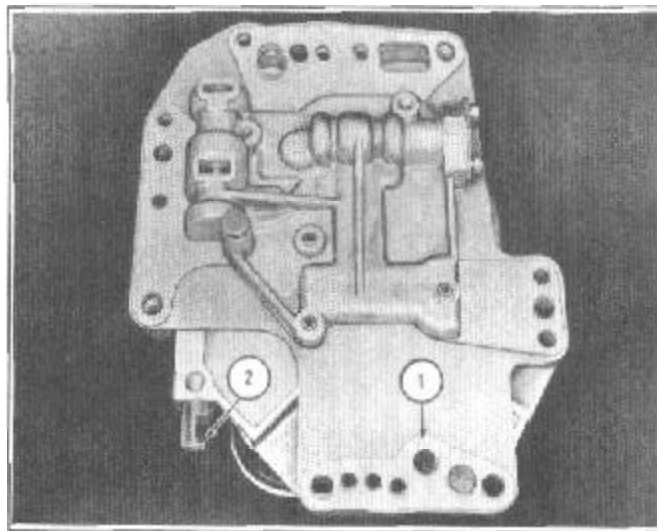

FIGURE 61
3. Remove the valve block base plate rear gasket (1), Figure 61.
1. Install a new valve block base plate rear gasket (1), Figure 61. Align the holes of the gasket with the holes in the base plate, retain in position with petroleum jelly.